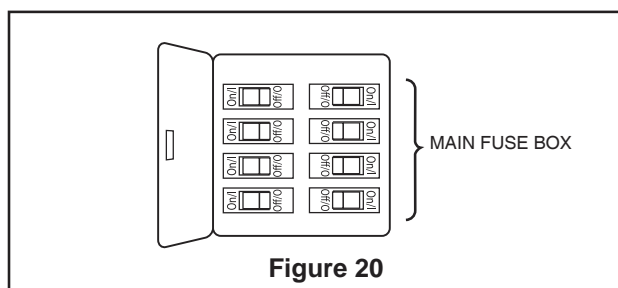

Figure 20
- ☐ 1. Restore electrical power to the outlet box by turning the electricity on at the main fuse box (Figure 20).